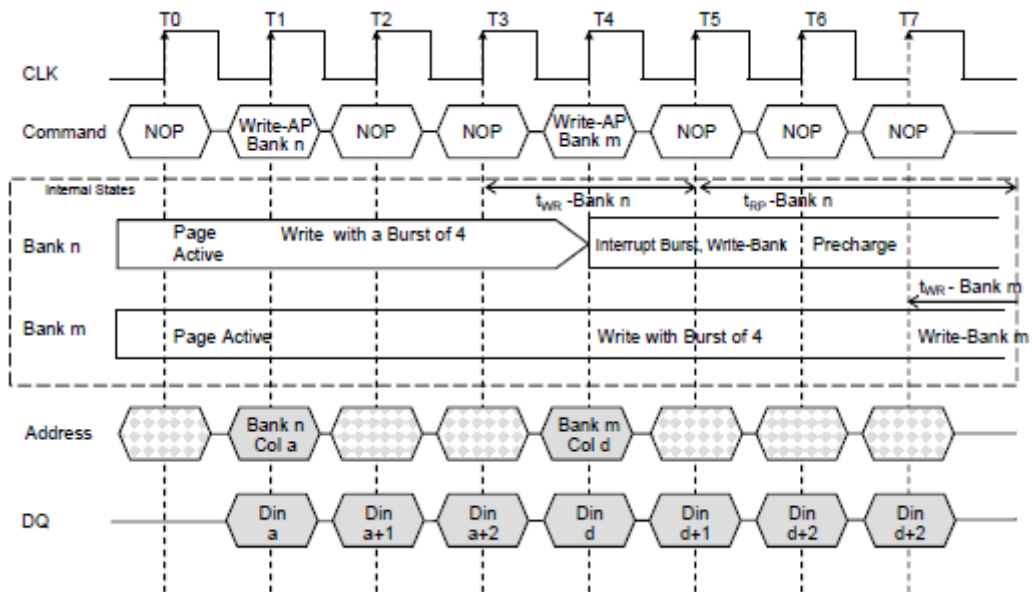

Figure 28. Write with Auto Precharge Interrupted by a Write
4. Interrupted by a Write ( with or without auto Precharge): A Write to bank m will interrupt a Write on bank n when registered. The Precharge to bank n will begin after  $t_{WR}$  is met ,where  $t_{WR}$  begins when the Write to bank m is registered. The latest valid data Write to bank n will be data registered one clock prior to a Write to bank m.( Figure 28. )